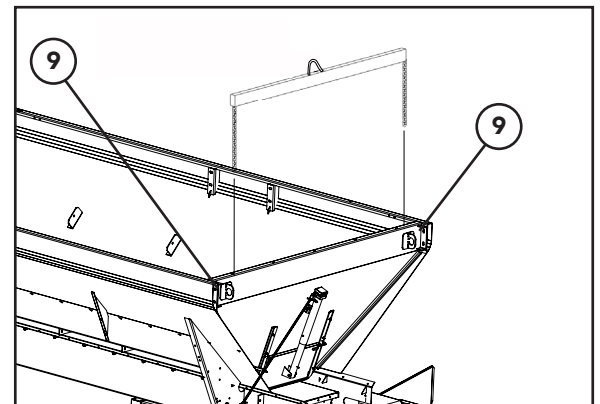

Figure 3
- Figure 3 - Support endgate by attaching a hoist to the lift hooks. Remove hardware (9) from both sides of the endgate and carefully remove from the spreader.